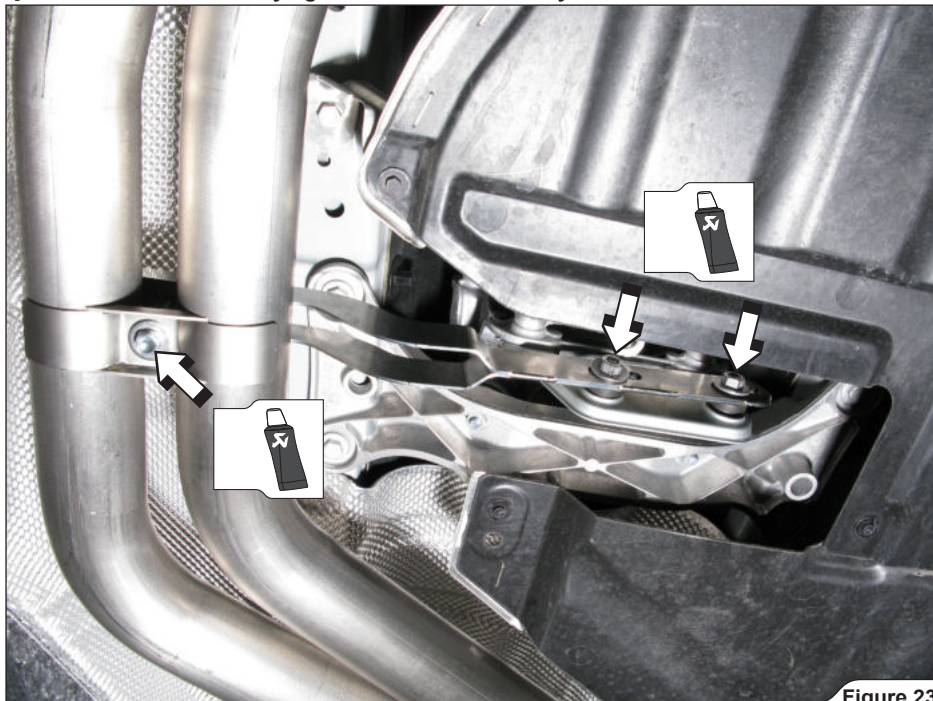

Figure 23
7. **For Evolution:** attach the Akrapovič Evolution Link Pipes' bracket onto the chassis using stock bolts and nuts and assemble the Akrapovič clamp onto the bracket using Akrapovič bolt and washer; hand tighten all bolts only (**Figure 23**).